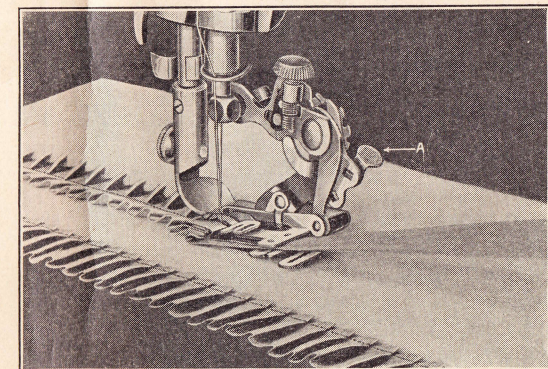

FIG. 27
To make a five stitch ruffle or plait, raise the adjusting lever (A) to its highest point, as shown in Fig. 27, the ruffling blade will then move forward and back once every fifth stitch. Varied styles of work can be accomplished.